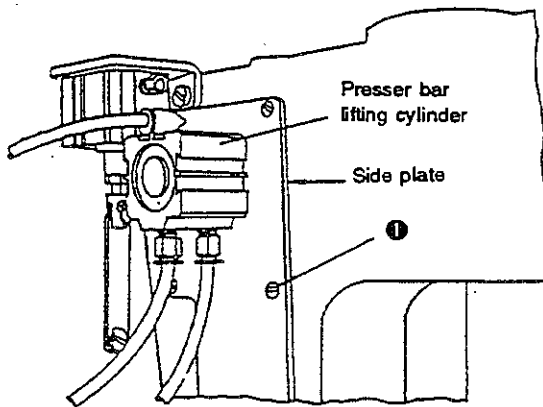

Fig. 4
<p>1. Set the stitch dial to "0" on the scale.</p> <p>2. Loosen attaching screws ❶ in the side plate. (Fig. 4)</p> <p>3. Remove the side plate. (Fig. 4)</p> <p>4. Loosen clamping screw ❷ in the needle bar connecting rod. (Fig. 5)</p> <p>5. Bring the needle bar to the lowest position of its stroke.</p> <p>6. Align the center of the needle with the center of the slot in the throat plate.</p> <p>7. Tighten screw ❷ in the needle bar connecting rod. (Caution) Tighten the screw with a tightening torque of 80 to 90 kgf.cm.</p> <p>8. Attach the side plate in place.</p> <p>(Caution) The feed amount of the needle is mechanically larger than the feed amount of the feed dog by 5%.</p>	<p>☆ If the needle entry is adjusted too close to the operator:</p> <ul style="list-style-type: none"> ○ The needle may interfere with the feed dog, resulting in needle breakage. <p>☆ If the needle entry is adjusted too far from the operator:</p> <ul style="list-style-type: none"> ○ When the needle comes out of the slot in the throat plate, the needle may interfere with the feed dog, resulting in thread breakage. ○ The needle may come in contact with the feed dog during the reverse feed stitching, resulting in needle breakage. <p>7' At this time, move the needle bar connecting rod to the right or left until the needle bar connecting rod is positioned approximately at the center of the play. → If the needle bar connecting rod is not correctly positioned, an excessive torque may result.</p> <p>For the sewing machine equipped with an auto-lifter, attach the side plate in place following the steps of procedure described below.</p> <p>8. Raise the presser bar lifting lever.</p> <p>9. Put hinge screw ❸ of the presser bar lifting cylinder in the forked section of the presser lift lever.</p> <p>10. Confirm that the bottom face of the knee lifter arm A is engaged with the presser lift lever.</p> <p>11. Attach the side plate in place.</p>
(3) Needle-to-hook relation